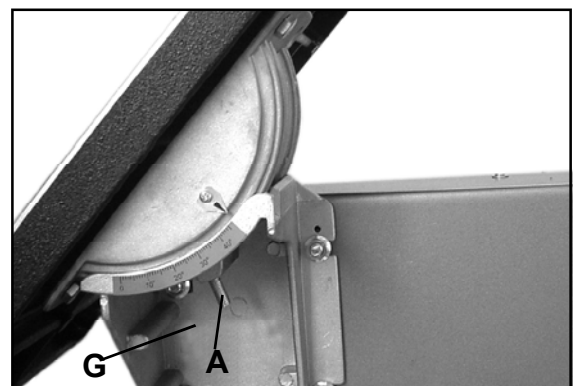

Fig. 04
Turn the table over and remove the wing nut (C) from the trunnion carriage bolt (A) making sure the end of the bolt projects down through the casting. (See Fig.04)
Guide the table and upper trunnion on to the bandsaw lower trunnion (G) and ensure the bolt (A) projecting from the upper trunnion is inserted through its corresponding hole in the lower trunnion. When in position, tighten the wing nut (C). (See Fig.04)